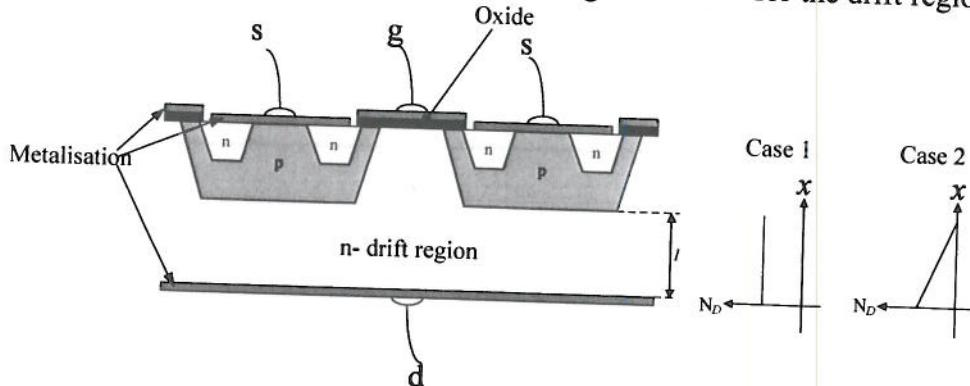

Figure Q3.1 Structure of new proposed IRF MOSFET family with two proposed drift region doping profiles
3. International Rectifier (IRF) are designing a new family of power MOSFETs rated to block 250 V. A cross-section through the device is shown in Figure Q3.1. Two doping profiles are being considered for the drift region.
- a) Explain why the structure of Fig Q3.1 is used in power MOSFETs and why drain-source resistance eventually becomes too high for efficient device operation as the device is designed for increasing blocking voltage.
- b) In the first design iteration, IRF decide to use a constant doping density of the n- drift region of $1 \times 10^{15}/\text{cm}^3$ of donors (case 1 in Figure Q3.1). What length of drift region is required to meet the 250 V blocking capability?
- c) In the second iteration, IRF decide to use a doping profile in the n-region which is non-constant. The doping density is effectively 0 at the p to n-interface and increases linearly as a function of distance towards the drain (case 2 in Figure Q3.1). Calculate the required drift-region length l to meet the 250 V blocking capability, given that the doping density at the drain is fixed at $1.5 \times 10^{15}/cm^3$.